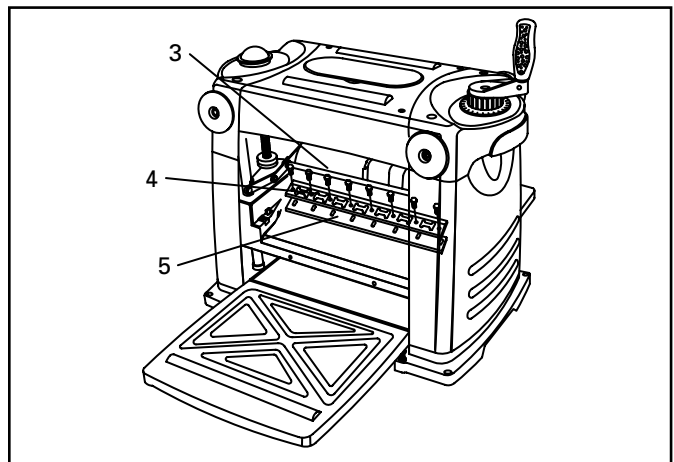

Fig. 15
4. Remove the eight hex head bolts (3) with the supplied wrench (Fig. 15).
5. Carefully remove the hold-down plate (4) by lifting straight up (Fig. 15).
6. Carefully remove the blade (5) by lifting both ends straight up (Fig. 15).
7. The blade has two cutting edges. If using the other side of the blade or replacing the blade, place the blade on the cutterhead by locating the two slotted holes in the blade over the locating pins on the cutterhead (Fig. 15).